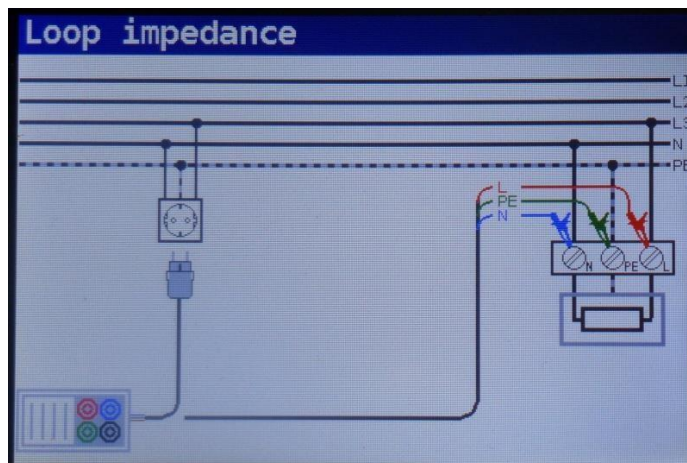

Figure 5-29: Connection of plug cable and universal test cable
Step 2 Connect the test leads to the instrument and follow the connection diagram shown in the figure 5.29 to perform fault loop impedance measurement.